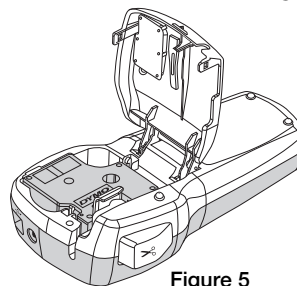

Figure 5
- 3 Insert the cassette and press firmly until the cassette clicks into place. See Figure 5.